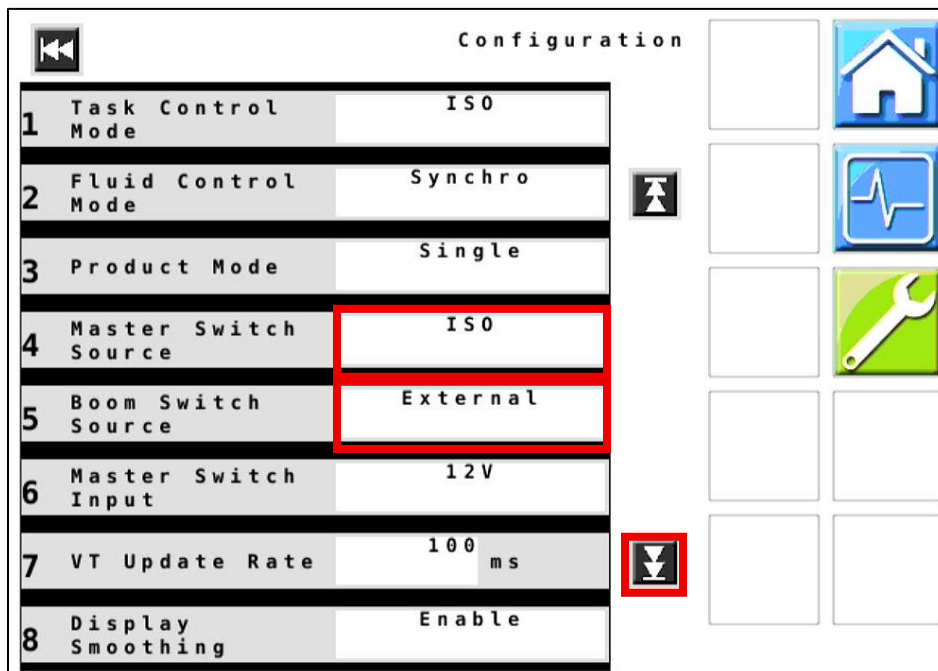

Figure 3 — Configuration Menu – Page 1
4. **Figure 3:** Change **Master Switch Source** to **ISO** and **Boom Switch Source** to **External**.